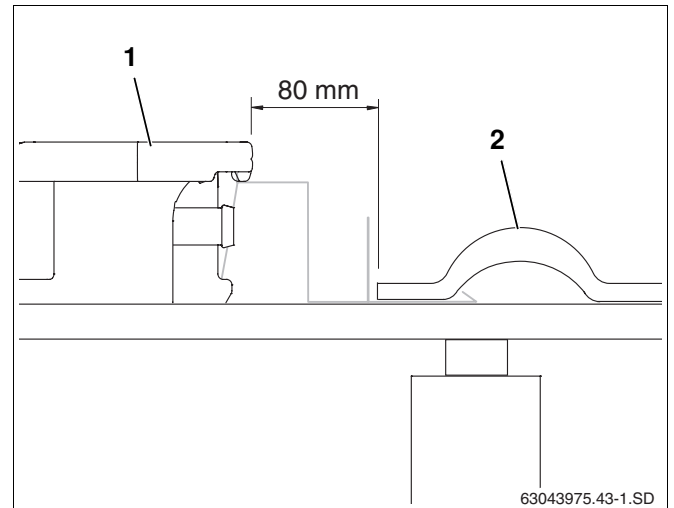

Fig. 22 Laying first collector and screwing in place
- Allow first collector (Fig. 22, **Item 1**) to slide into place in the anti-slip protection device and position 80 mm from the outer (cut if necessary) pan tile (Fig. 22, **Item 2**).